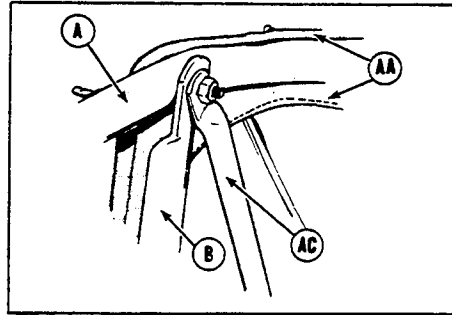
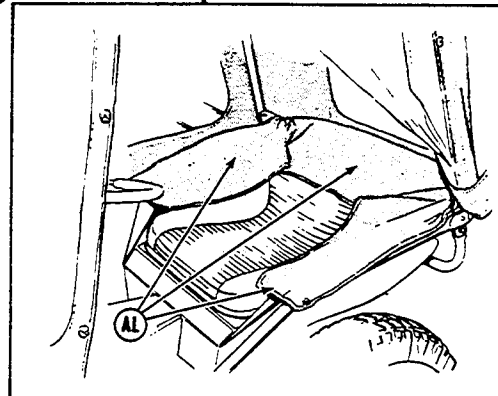

FIGURE 2
FIGURE 3
The generator assembly is then held in place at the rear of the tractor and the pivot rod, C, Fig. 2, is inserted through the rear tractor arms and through the tubular portion of the mounting bracket, Fig. 2. The pivot rod is then secured by spring clips at each end.
4. Thread member (C) into channel in canvas canopy (AA) (See Fig. 2) and bolt (C), (A), (D) and (E) together on each side as detailed in Fig. 2.
8. Attach the upper end of rods (AC) to (A) at the front corners making sure that the upper corner of the front window assembly (AH) is fastened to the same point by means of the screw passing through the eyelet provided in the canvas (Fig. 2).
9. The top of the front window assembly is then snapped on the fasteners at the front of (A) and the sides are snapped to members (B).
10. The seat protector panel (AL) is then snapped to (F) and (AE). See Fig. 3.